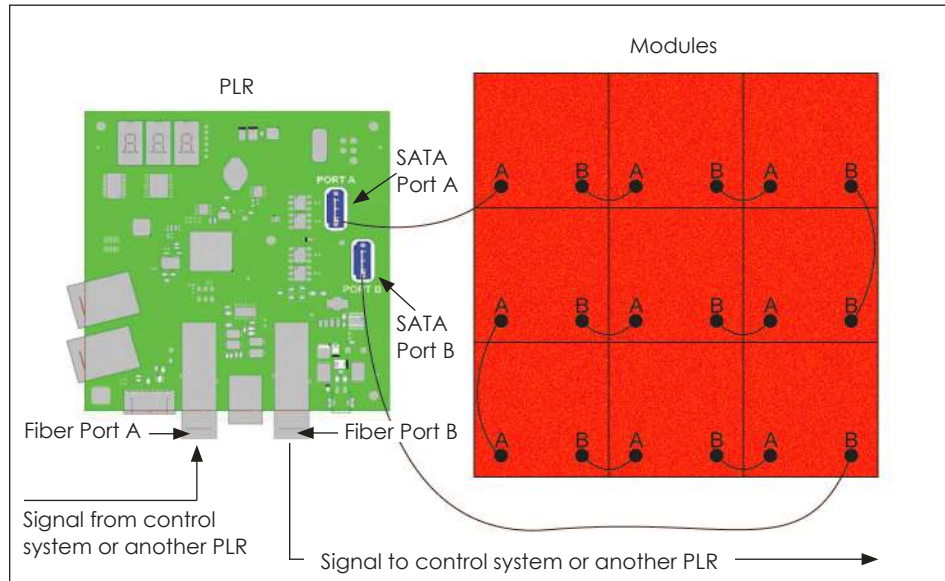

Figure 75: ProLink 6 Failure from Fiber Ports or SATA Ports
- **Signal Backbone - Port A Health** - This tests the ProLink 6 connections via fiber Port A on the PLRs. If the PLR Port A fiber is disconnected, the modules connected to that PLR turn red. Refer to **Figure 75**. If the PLR has proper connection and communication via Port A, the modules connected to that PLR turn green.
- **Signal Backbone - Port B Health** - This tests the ProLink 6 connections via fiber Port B on the PLRs. If the PLR Port B fiber is disconnected, the modules connected to that PLR turn red. Refer to **Figure 75**. If the PLR has proper connection and communication via Port B, the modules connected to that PLR turn green.
- **Output to Module - Port A Health** - This tests the SATA Port A on the PLR. If the SATA Port A is connected to the modules properly, all the modules turn green. If SATA Port A is not connected to the modules correctly, all the modules turn red. Refer to **Figure 75**.
- **Output to Module - Port B Health** - This tests the SATA Port B on the PLR. If the SATA Port B is connected to the modules properly, all the modules turn green. If SATA Port B is not connected to the modules correctly, all the modules turn red. Refer to **Figure 75**.